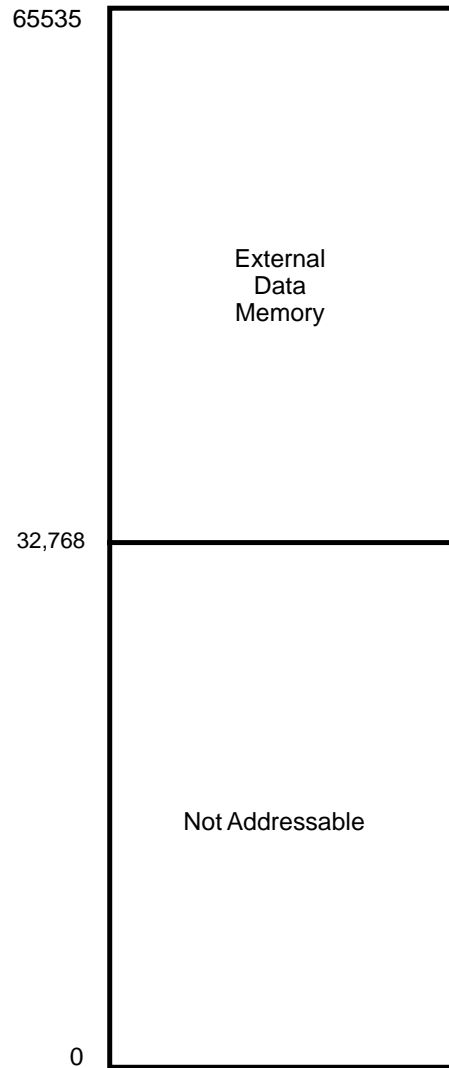

Figure 20. External Memory Map
**External Memory (/DM).** The Z86LXX addresses up to 32 Kbytes of external memory beginning at address 32768 (Figure 20). External data memory is included with, or separated from, the external program memory space. /DM, an optional I/O function that is programmed to appear on P34, is used to distinguish between data and program memory space. The state of the /DM signal is controlled by the type of instruction being executed. An LDC opcode references PROGRAM (/DM inactive) memory, and an LDE instruction references data (/DM active Low) memory.